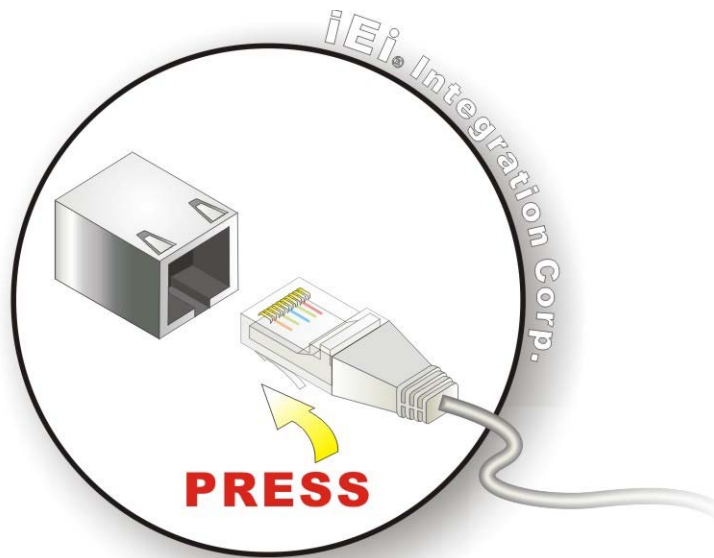

Figure 4-19: LAN Connection
Step 2: Align the connectors. Align the RJ-45 connector on the LAN cable with one of the RJ-45 connectors on the PCIE-Q870-i2. See **Figure 4-19**.